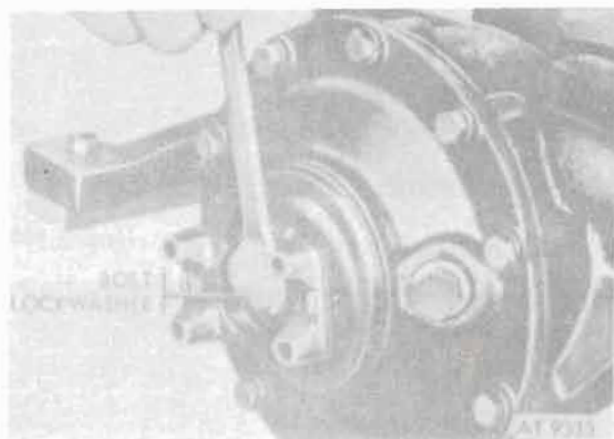

Figure 12-2. Side gear drive flange retaining bolt and lockwasher.
b. Remove right and left output flange retaining bolt and lockwasher (fig. 12-2). Use a standard flange-holding tool on flange to prevent rotation.